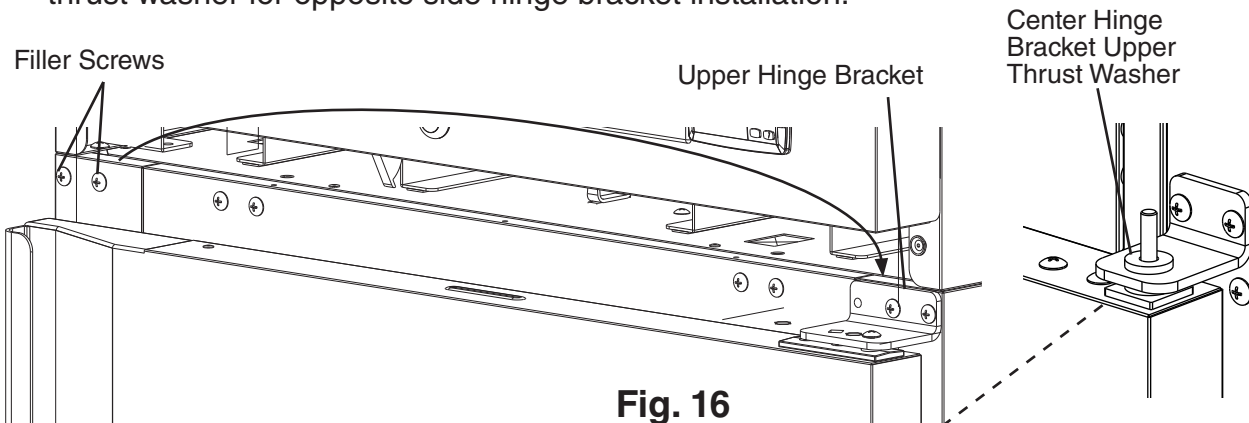

Fig. 16
- 3) While maintaining a hold on the upper door, remove the upper hinge bracket then lift the door off the center hinge bracket. See Fig. 16. Retain the upper center hinge bracket thrust washer for opposite side hinge bracket installation.